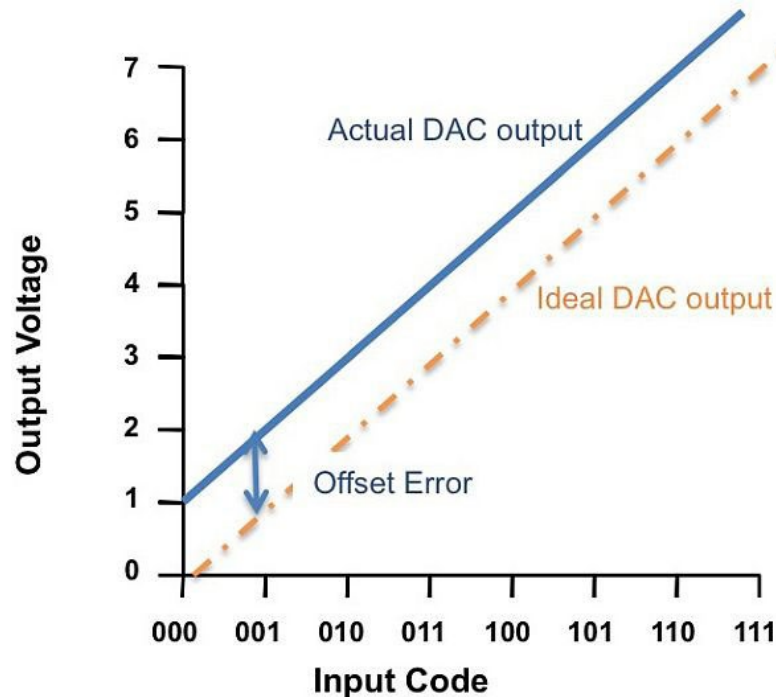
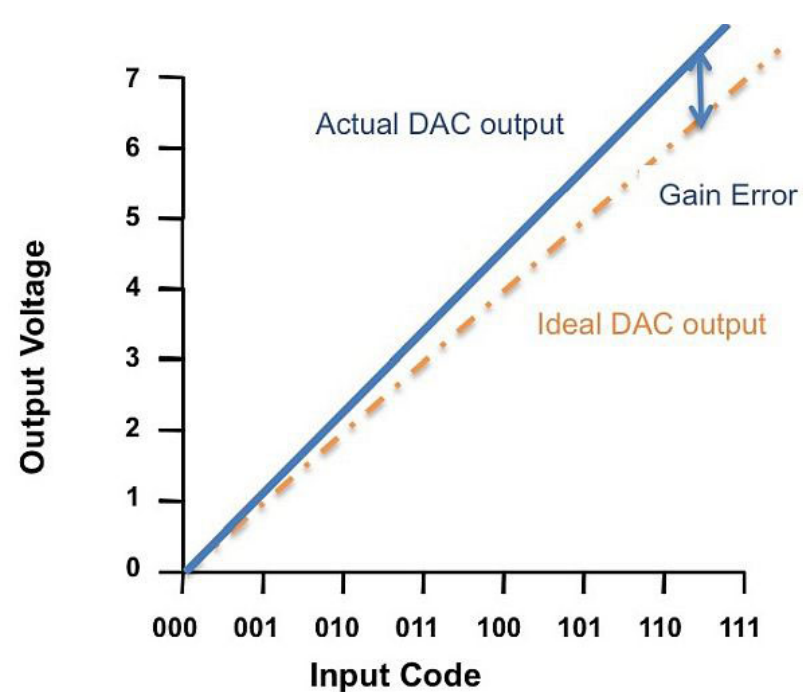
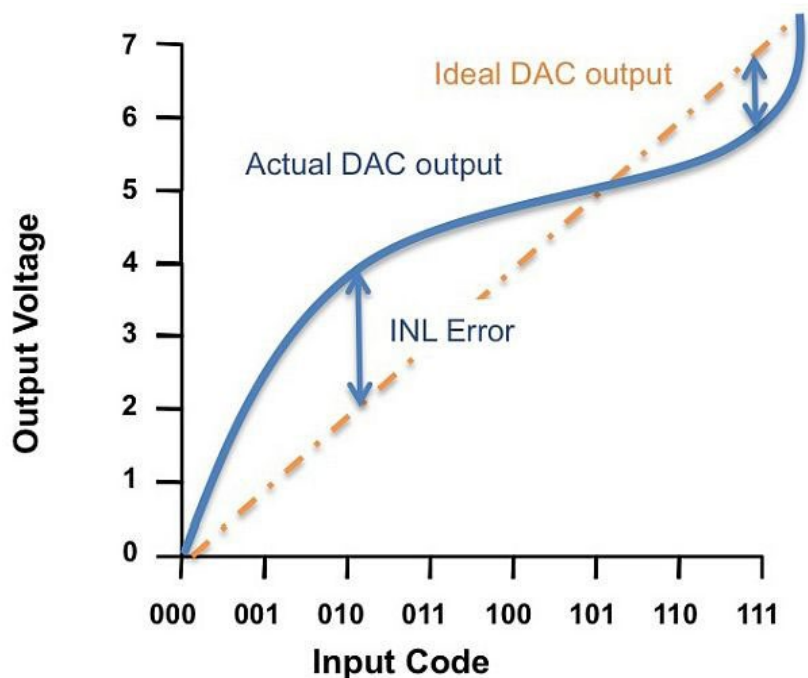

Figure 1. DAC offset error of a simple 3-bit DAC.
Figure 2. DAC gain error of a simple 3-bit DAC.
Figure 3. DAC integral non-linearity of a simple 3-bit DAC.
sion DACs are no different. The main source of direct-current (DC) errors in a precision DAC are offset error (OE), gain (GE), and integral non-linearity (INL). Offset error describes an offset or shift in the entire transfer function across the linear region of operation (Figure 1). Gain error describes the deviation from the ideal slope of the transfer function defined as a least significant bit (1 LSB), as shown in Figure 2. INL describes the deviation between the ideal output of a DAC and the actual output of a DAC. For example, Figure 3 shows an actual